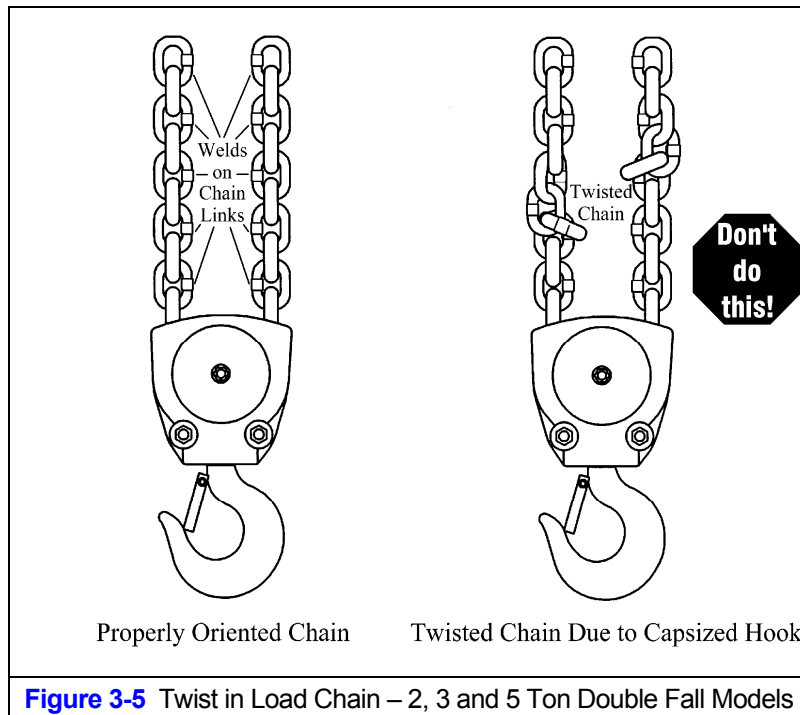

Figure 3-5 Twist in Load Chain – 2, 3 and 5 Ton Double Fall Models
3.2.6 **⚠️ WARNING** Verify that the load chain is not twisted or tangled prior to operating the hoist. Make sure the bottom hook on 2, 3 and 5 Ton double fall models is not capsized. See Figures 3-5 and 3-6. Correct all chain irregularities before conducting the first hoist operation.